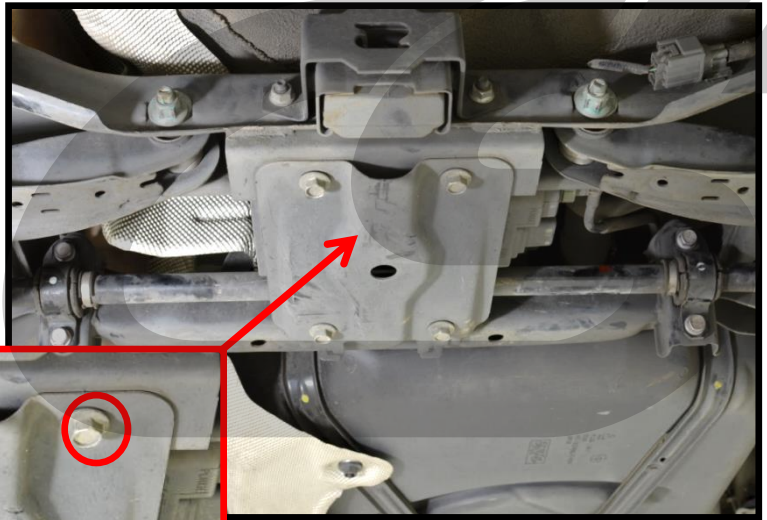

Figure 2a
- a) Remove the four (4) rear subframe brace bolts (shown with red circles in Figure 2a). Use a ratcheting wrench and a 14mm socket.
- f) Re-install sub-frame brace from step 2a using a 14mm socket and wrench. Refer to Figure 2a for reinstallation.